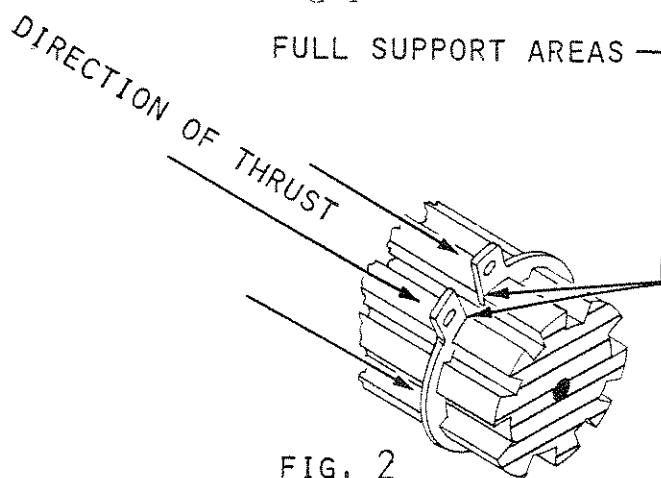

FIG. 2
2. When installing circlips on splined shafts, have the open ends of the circlip supported by the circlip groove. (See fig. 2)